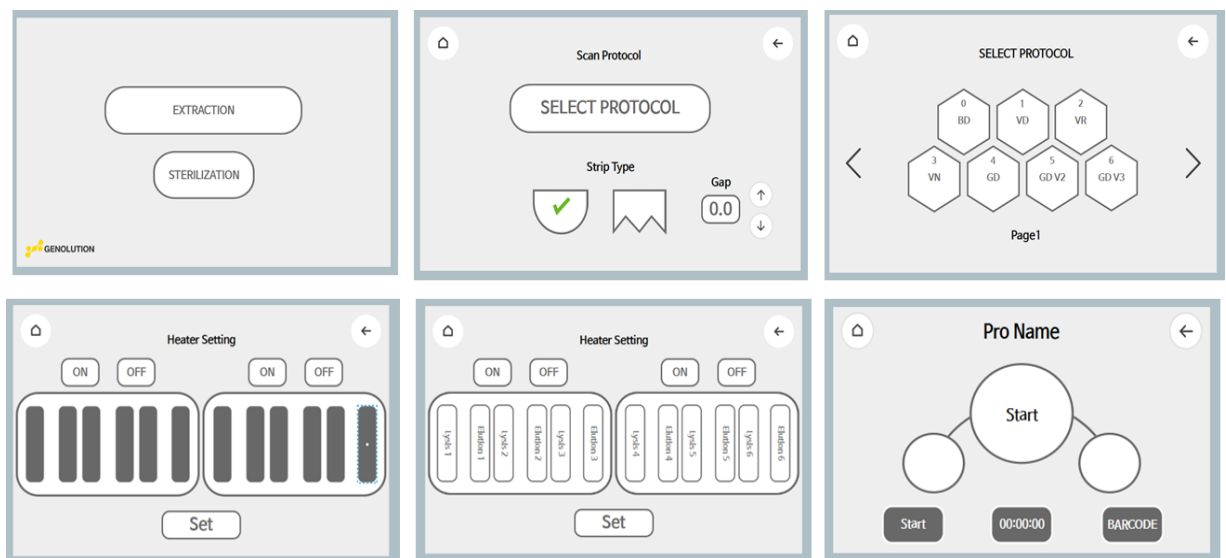

Figure 9: Protocol setting screens
- Select Extraction → Select Round Strip Type → Select Protocol → Select BD → Touch the On / OFF button to select the heating region for the left and right plate loader → Press the Set button to complete the setting → START (Figure 9)